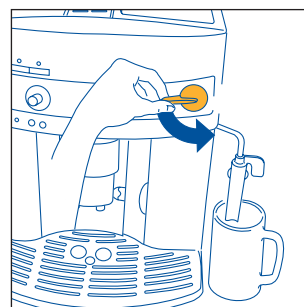
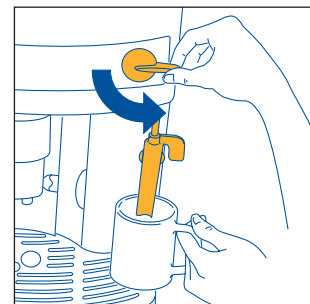
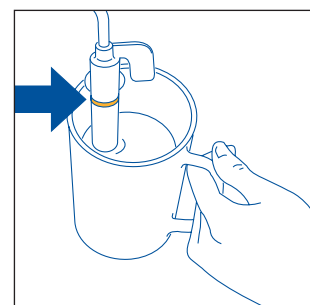

Fig.5
Fig.23
Fig.24
3. **IMMEDIATELY AFTER, WITHIN A MAXIMUM OF 30 SECONDS**, turn the steam knob anticlockwise until it stops (Fig.5) (it is normal for the machine to make some noise).
- Turn the steam knob half a turn in anticlockwise until it stops (Fig. 5): hot water will come out of the milk frother and start to fill the container underneath.
- **Immediately after, within a maximum of two minutes** (otherwise the machine automatically returns to the coffee function), dip the milk frother into the container of milk (Fig. 23), making sure not to immerse the line in relief on the milk frother (indicated by the arrow in Fig. 24) and turn the steam knob half a turn anticlockwise until it stops (Fig. 5). (Be careful, to avoid being scalded). The steam released will make the milk froth and increase in volume. To make creamier foam, dip the milk frother into the milk and rotate the container with slow movements from the bottom to the top (you are recommended to limit steam delivery to no more than two minutes at a time).
- Release a little steam for a few seconds by turning the steam knob anticlockwise until it stops (Fig. 5).